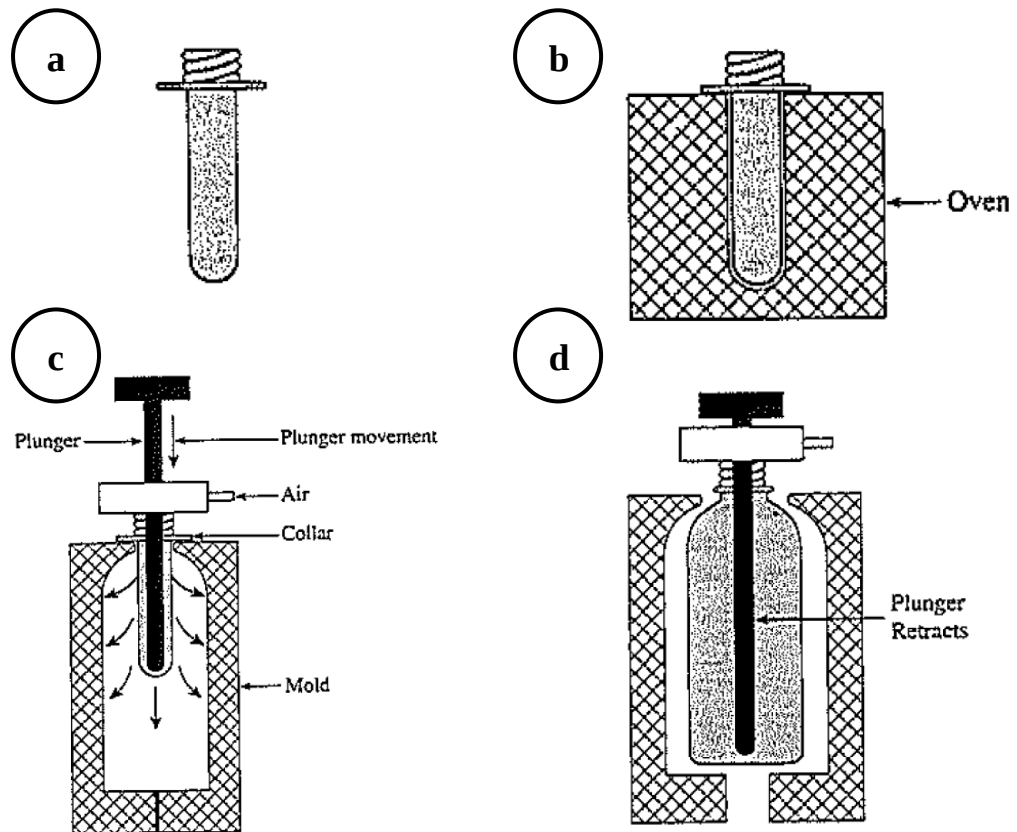

Figure 3c(ii): Injection blow moulding process operating mechanism
- ii. Injection blow moulding combines elements of both injection moulding and blow moulding. Write the operating mechanism of the injection blow moulding process based on Figure 3c(ii).